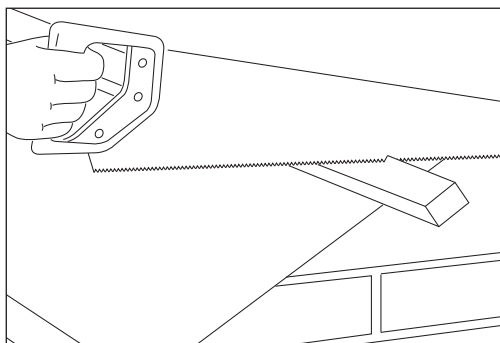

Fig 1 Cut battens flush
- 1 Nail tiling battens in the normal way and cut flush with either gable end or bargeboard. (Fig 1).